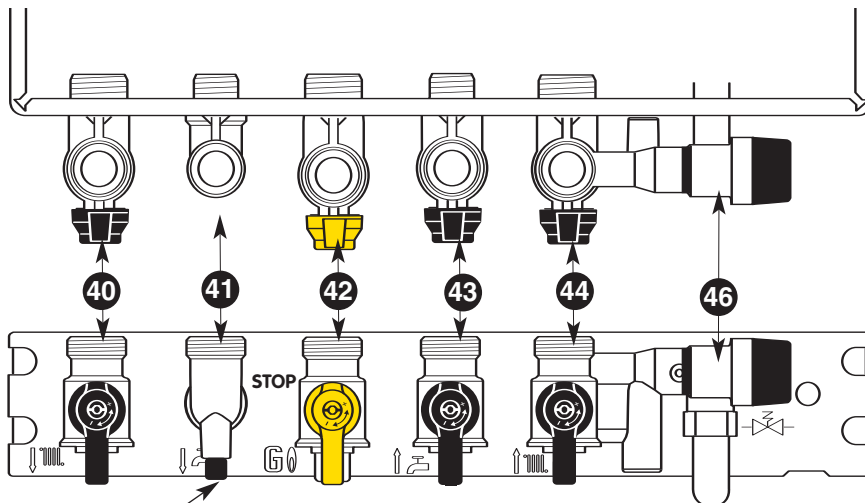

Fig. 21
Taps shown in Open position (Fig. 21)
3. Open the gas tap 42 (Fig.21).
Note : The configuration of the C.H. system can generate some gravity effect when the boiler is set in DHW mode only. It may result in a temperature rise of the heating pipes close to the boiler (or eventually a radiator). To avoid this it is possible during the summer period (Central Heating switched off) To close the Central Heating flow isolating tap (40 Fig. 21). Don't forget to open it before switching on the Central Heating mode again.
- Press on key 32 and 28 , to switch off both DHW and CH mode. The green indicators 33 and 29 will go out
- Shut off the gas service tap 42 (Fig. 21)
- Drain the water out the boiler with the drain valve 48 (Fig. 21)